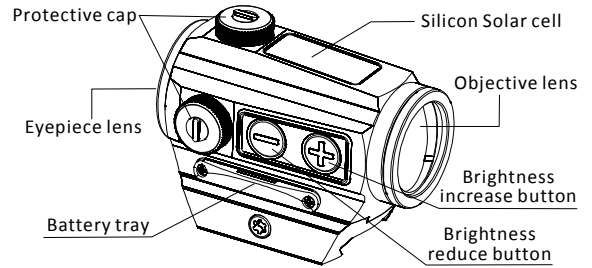

Fig1 PARALOW HS503C Circle Dot Sight
- First open the protective cap (see Fig1), position slot type screwdriver on the slotted screw, then rotate the screw to right or left for adjustment. Each left or right click is for one adjustment equivalent to 0.5MOA value.